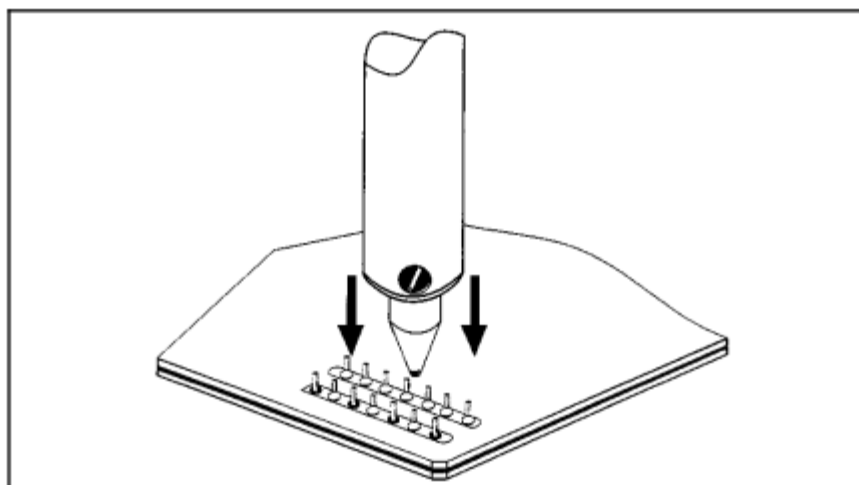
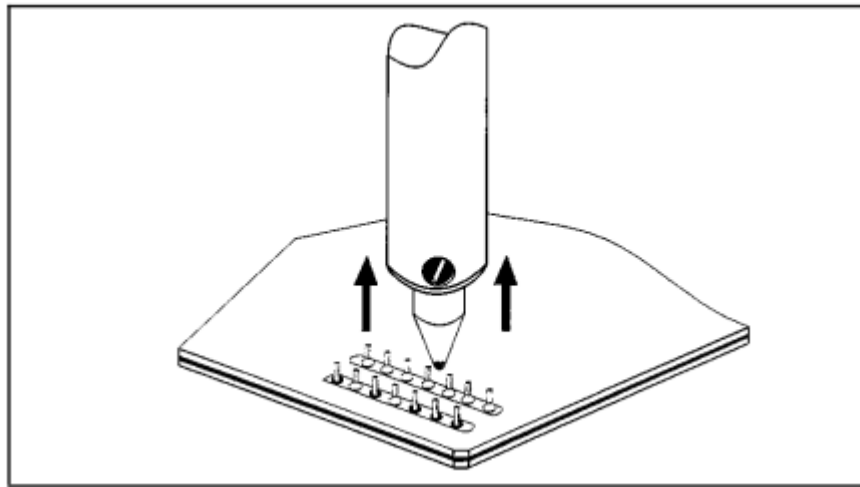

Figure 4 Position Tip
Figure 8 Lift Handpiece
13. Remove battery according to figure 4~figure 8